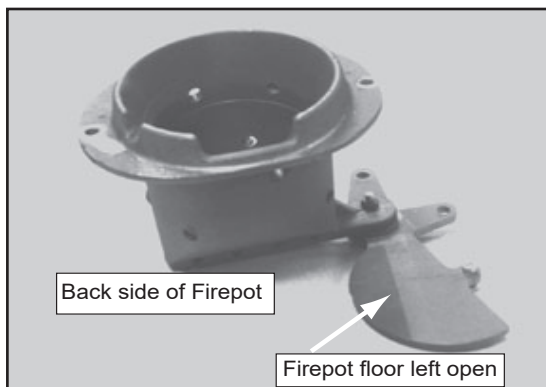

Figure 20.1
- c. The fire pot floor plate must be fully closed when finished (**Figure 20.1**).